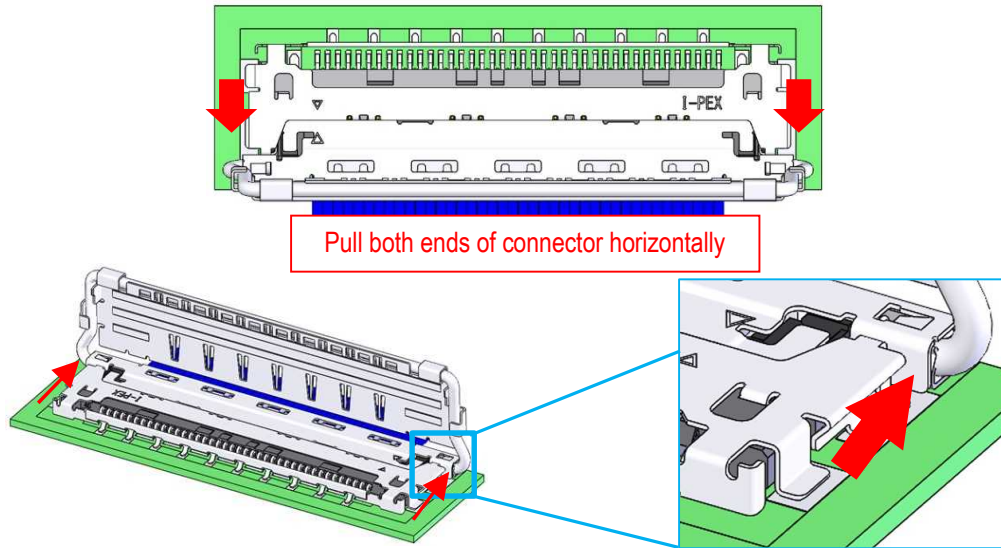

Fig.16
- ② As shown in Fig.16, hold both ends of the Plug connector and withdrawal it horizontally.